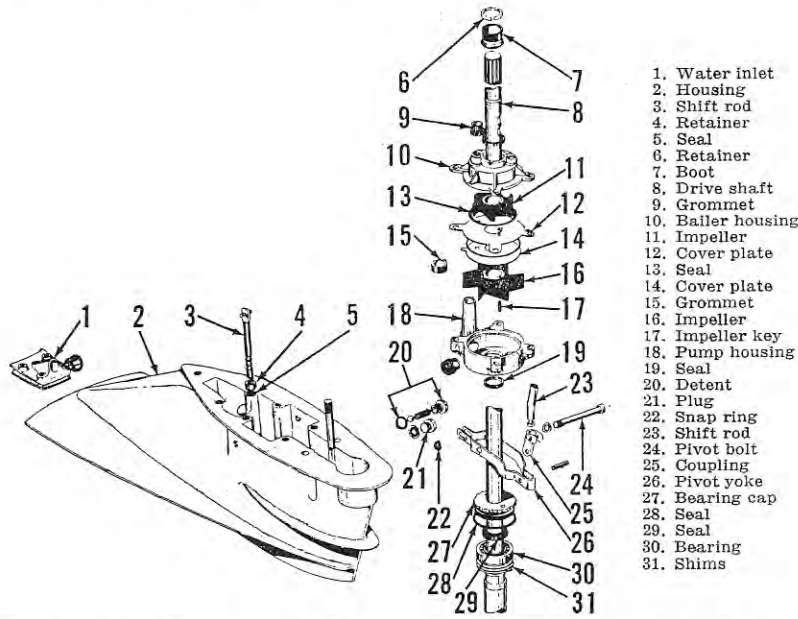
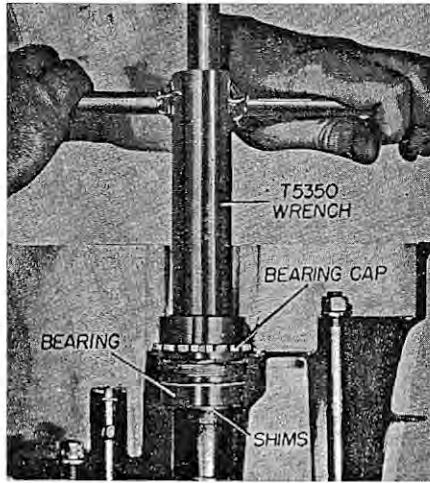

Fig. Mc144 — Exploded view of pump housing, shift linkage and associated parts used on Custom Flying Scott.
Fig. Mc148—Remove the drive shaft bearing cap by using the special wrench.
Refer to Fig. Mc143 and Fig. Mc144 for an exploded view of the assembly. To service the lower unit components, first remove the unit as outlined previously for the other three-cylinder models. Remove the propeller drive pin, propeller nut and propeller.
Working through opening in housing, hold the nut (25) and turn the drive shaft until nut (25) and washer can be removed. Remove the retaining lock screw and washer, then unscrew the driveshaft bearing cap (27—Fig. Mc144) using the special tool as shown in Fig. Mc148. Clamp upper end of driveshaft in a soft jawed vise and drift the lower housing and pinion gear off shaft
Shims (31—Fig. Mc144) control the backlash of the lower unit drive gears. Shims are available in thicknesses of 0.002, 0.003 and 0.010. Backlash should be 0.003-0.005 when measured at the pitch diameter of the drive pinion. To check and adjust the backlash, install the driveshaft and bearing assembly without shims. Mark one tooth of the pinion gear, then install and tighten the pinion gear, retaining washer and shaft nut. Turn the marked pinion tooth to a point where it is visible, note location in housing, and, without moving shaft, indicate shaft position by marking top of pump housing in line with impeller flat on driveshaft. NOTE: Variations in splines on shaft and pinion may make a slight difference in re-
Install driveshaft bearing cap (27—Fig. Mc144) and tighten cap until drive pinion makes contact with forward gear. Insert the gear installer (T-5361) in forward gear and install propeller shaft bearing cap (1—Fig. Mc143), less seal (4) and shims (2). Tighten the bearing cap by hand to lock forward gear to housing. See Fig. Mc149. Thread one pump mounting screw in housing as shown. Attach a dial indicator to driveshaft with indicator plunger bearing against the screw. Measure the distance from center of pump mounting screw to center of driveshaft, and multiply this distance by 0.003 to obtain the gage reading which will give the correct backlash. Measure the backlash with the dial indicator while pulling upward on driveshaft, and adjust the backlash to the indicated reading by tightening or loosening the driveshaft bearing cap. When the correct measurement has been obtained, remove the dial indicator and mark the bearing cap tooth that is nearest the lock screw hole. Remove the driveshaft bearing cap while counting the number of turns, so that cap can be reinstalled in the same position. Remove the propeller shaft bearing cap and special tool, then remove the drive pinion nut and gear.